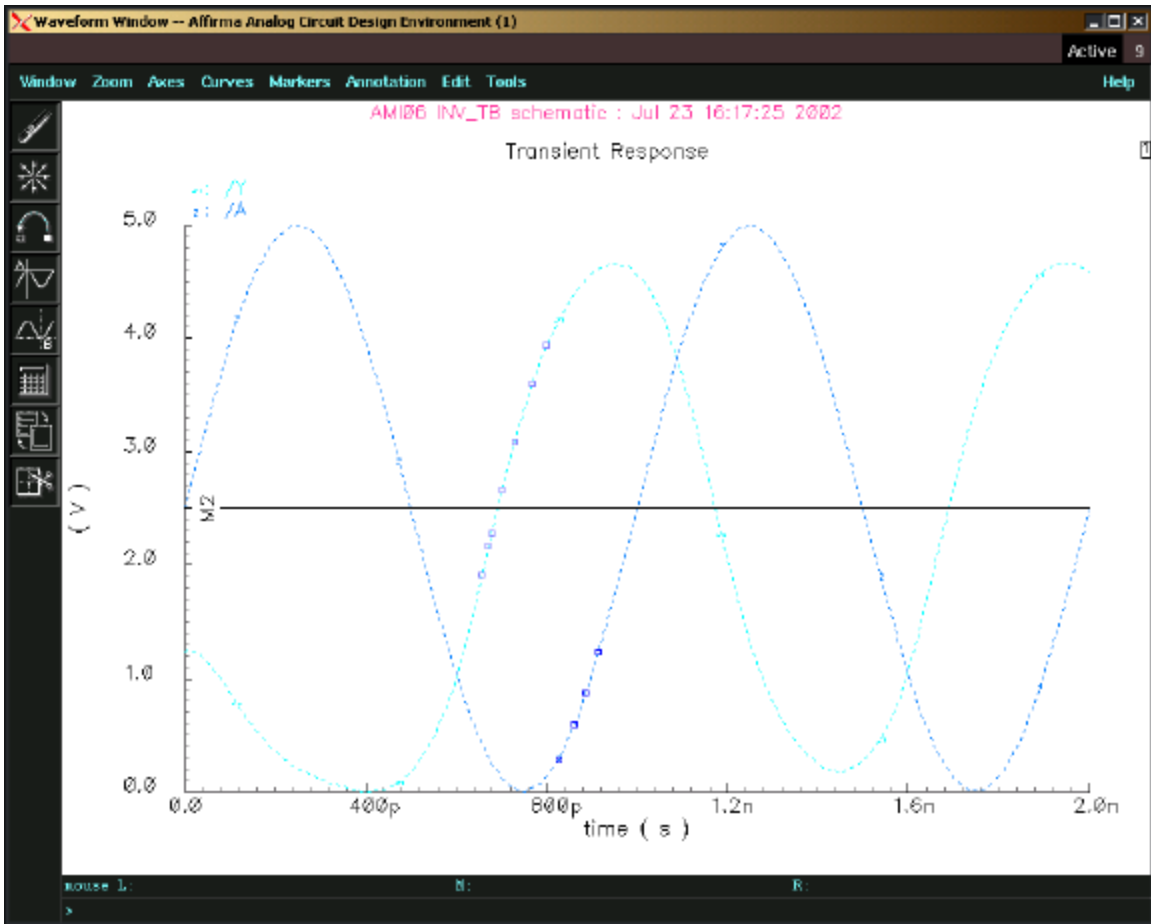

Figure 105: Output of Sine Wave Input
2. Change the vpulse to a vsin with an Amplitude of 2.5 V, Frequency of 1GHz, DC offset voltage of 2.5 V, and a delay time of zero seconds. You should get a similar result as in Figure 105 . Questions: (Delete the DC Analysis or you will get a warning.)